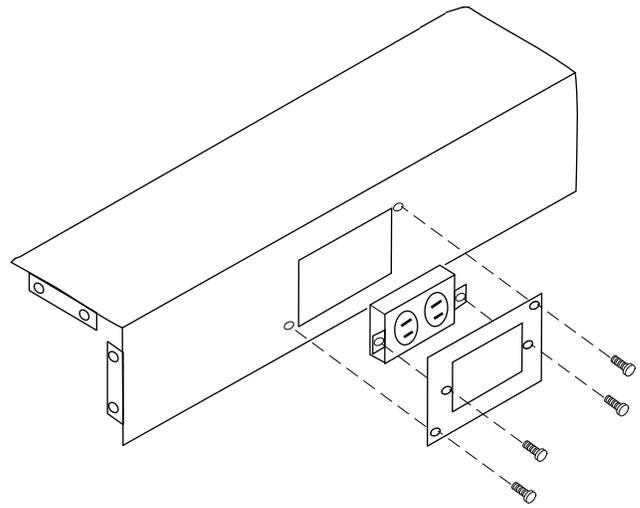

Figure 9
- b. Install the electrical outlet into the cut-out in the foot cap. Secure the outlet to the foot cap using the mounting plate and screws provided with the outlet (Figure 9).
Step 3: Screw the ground lug directly into the frame using 12-24X1/4 screws (Figure 9).